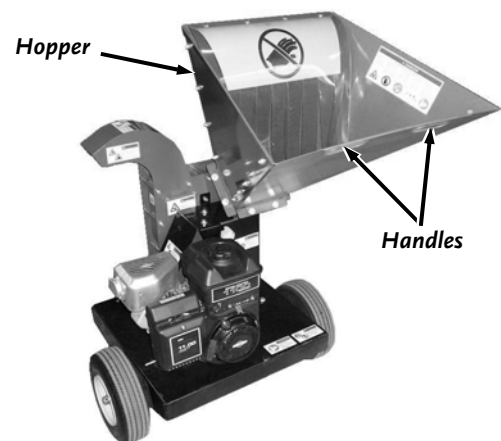

Figure 18
1. Grab the Handles on the Hopper and tip the Chipper towards you so the Front Stand is lifted off the ground (*Figure 18*).